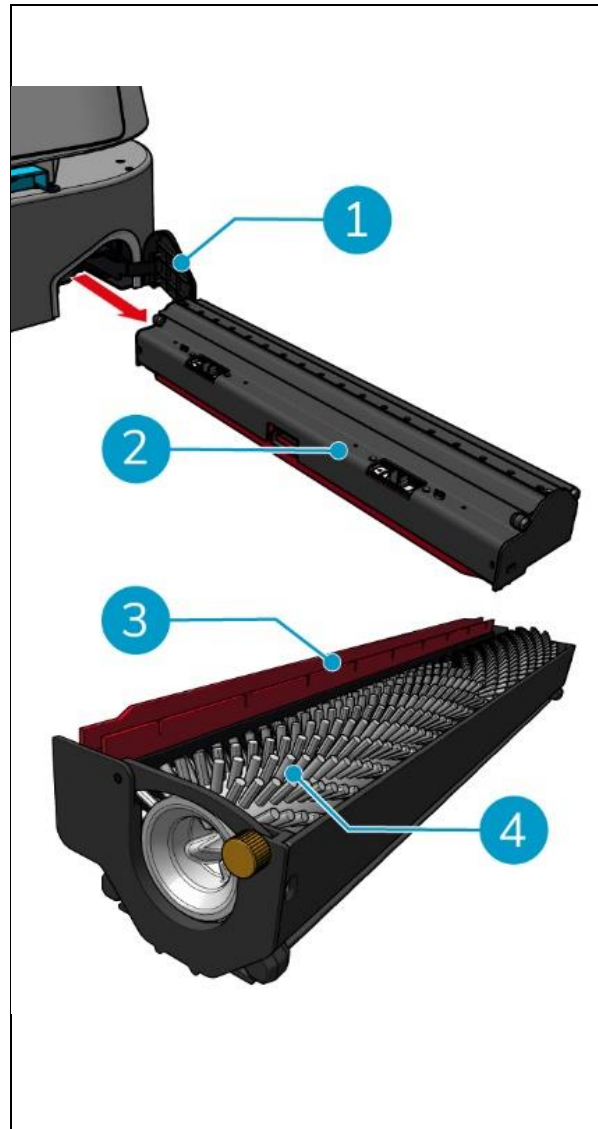

Figure 33
1. Open the lid of the roller brush and squeegee holder compartment (Figure 33, pos. 1).
2. Pull the roller brush and squeegee holder out of the compartment (Figure 33, pos. 2), along the top side rail.
4. Check to see if the squeegee blades (Figure 33, pos. 3) are clean and intact.
6. Check to see if the roller brush (Figure 33, pos. 4) is clean and intact.